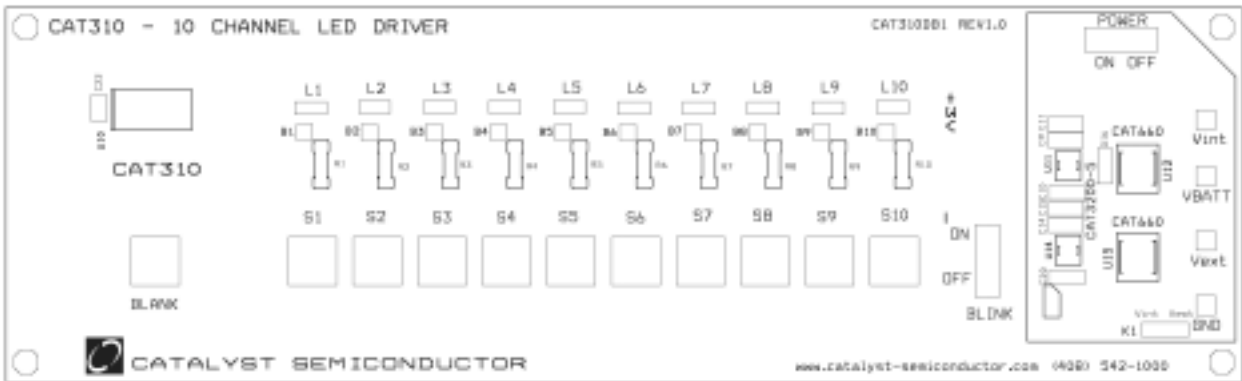

Figure 9. CAT310DB1 Component Placement – Top Side
- Figure 9. CAT310DB1 Component Placement – Top Side